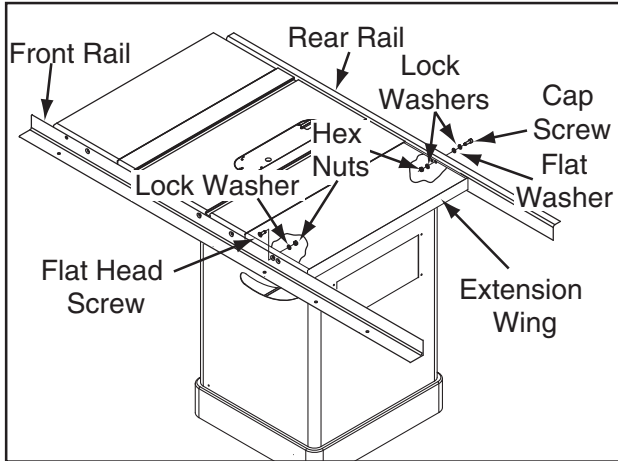

Figure 25. Extension wing attached to Model G0696X/G0697X.
2. With the assistance of a helper, place the extension wing between the rails, and fasten the wing to the front rail with (1) M8-1.25 x 25 flat head screw, 8mm lock washer and M8-1.25 hex nut (see **Figure 25**). Finger tighten for now.
3. Attach the extension wing to the rear rail with (1) M8-1.25 x 25 cap screw, (2) 8mm lock washers, (1) 8mm flat washer and (1) M8-1.25 hex nut, as shown in **Figure 25**. Finger tighten for now.